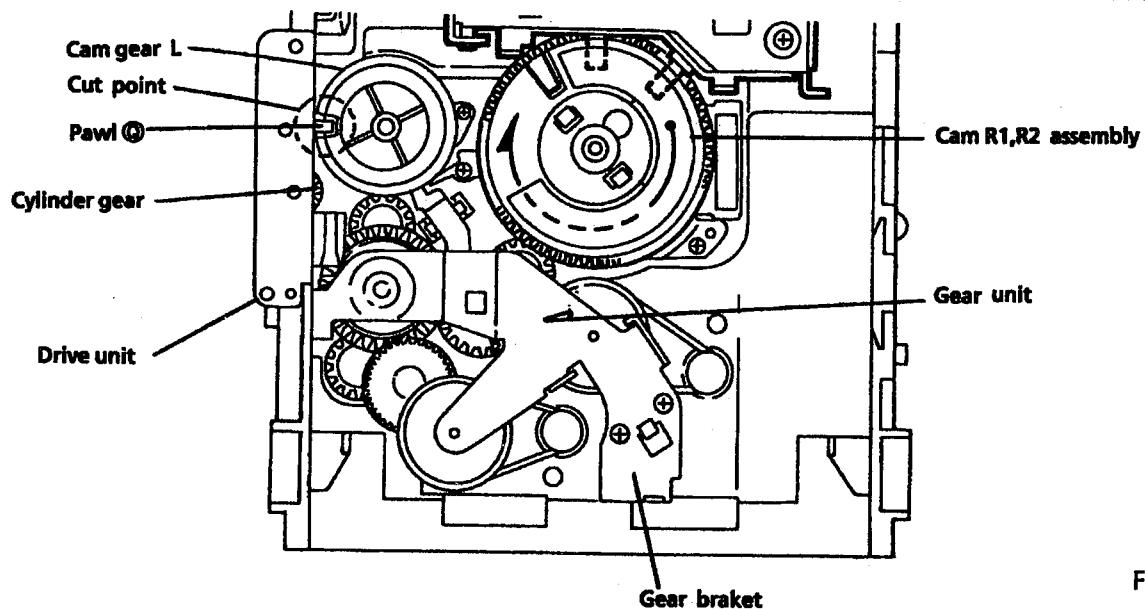

Fig. 42
[NOTE] Set the drive unit's pawl ③ so that it is positioned as shown in Fig. 42. Confirm that the cam gear L engages with the gear unit by rotating the cam gear L.